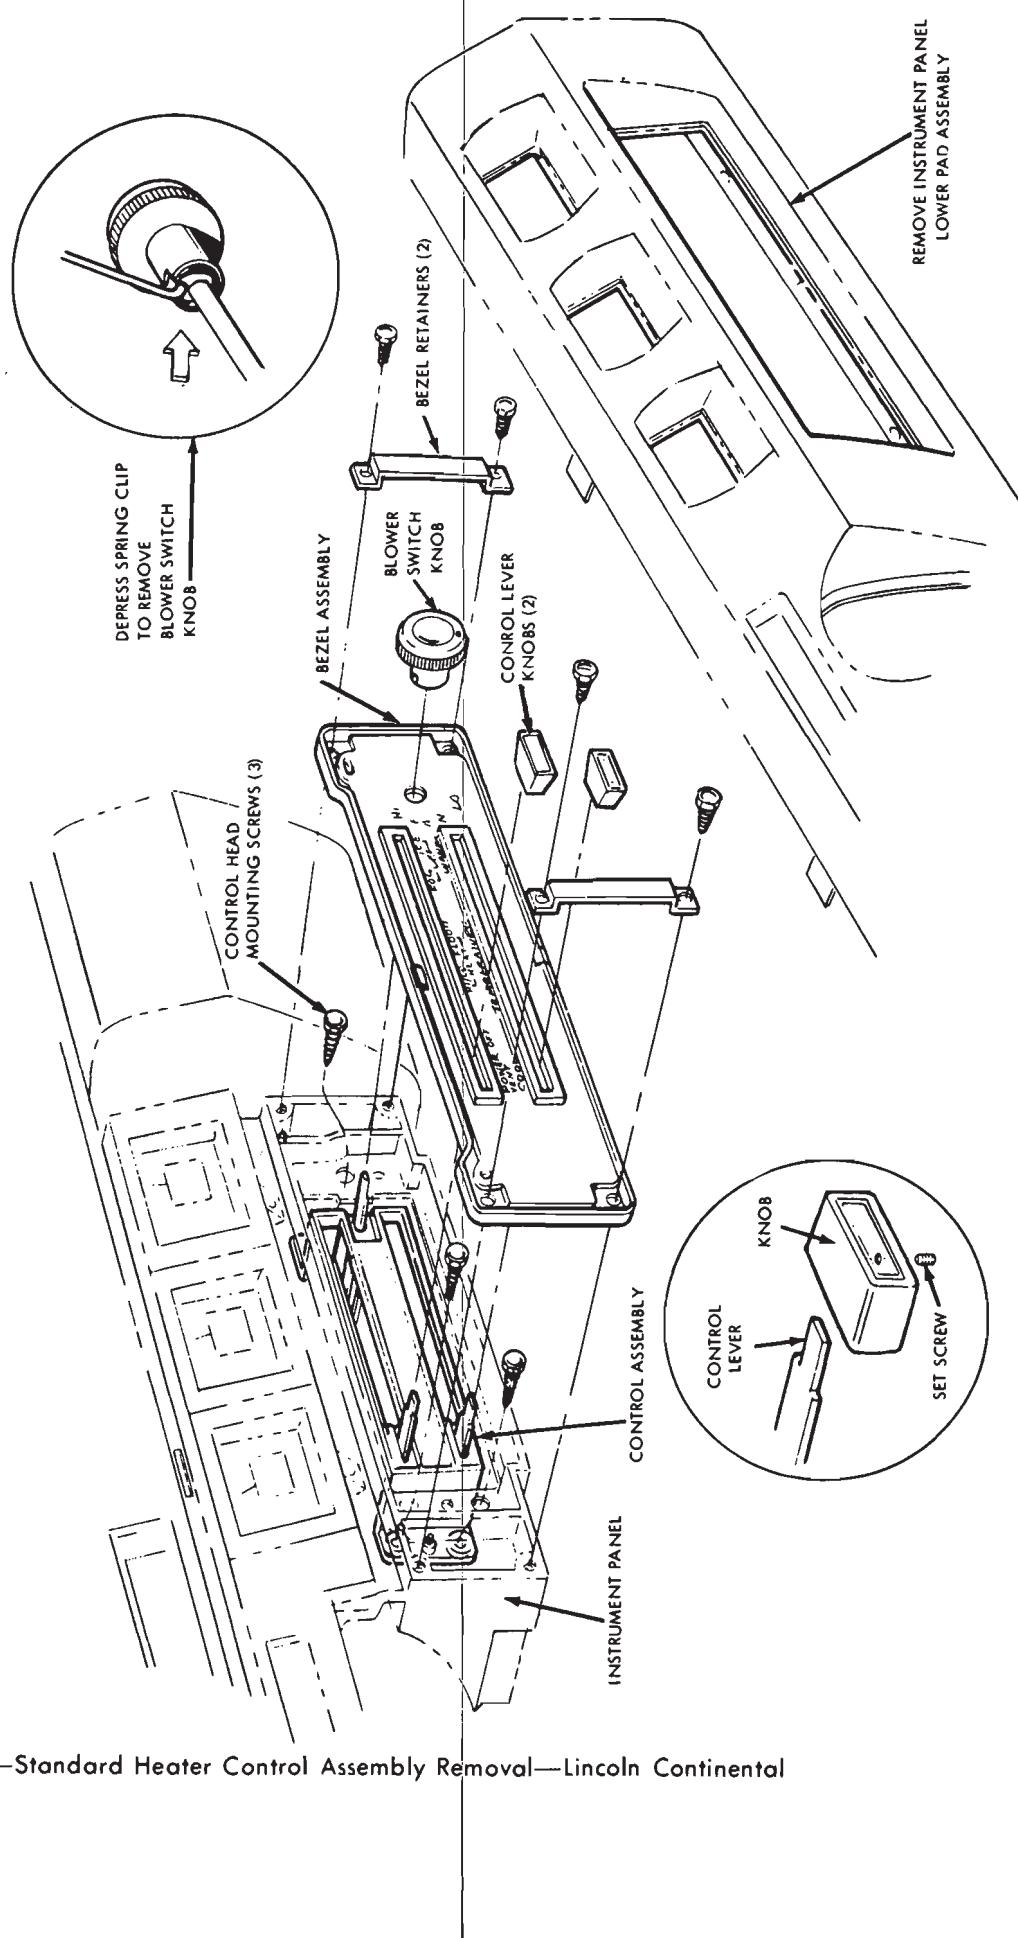

FIG. 51—Standard Heater Control Assembly Removal—Lincoln Continental
4. Remove three knobs from the control assembly (Fig. 51). The control lever knobs are retained with set screws; the blower switch knob with a spring clip.
3. Move the control head up under the instrument panel and rearward into its mounting position (Fig. 51). Install the three control head mounting screws.